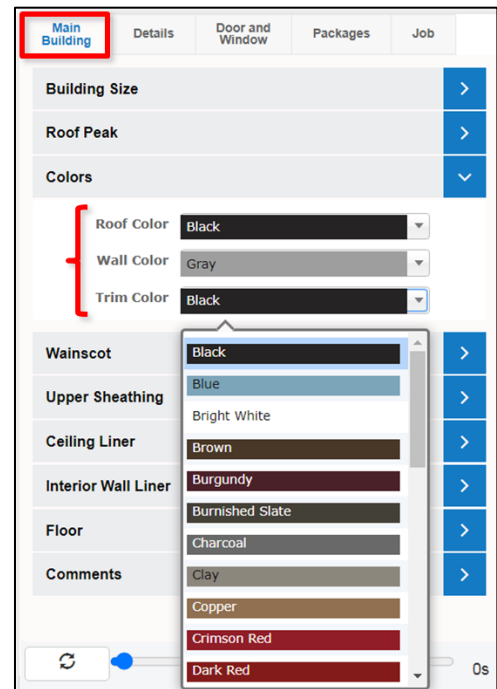

Figure 20: Changing building colors in the *Properties Pane*.
4. With your job now open on the *Edit Job* page, in *3D View Mode*, click on the *Main Building* tab in the *Properties Pane*, as shown in Figure 20.